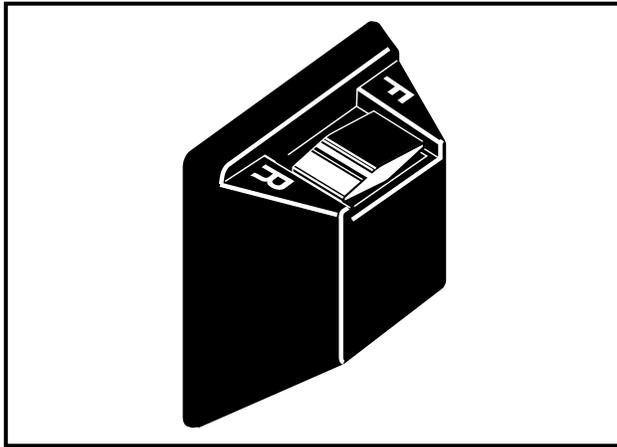

FIGURE 6
The forward/reverse shift switch is located in the same place as the forward/reverse shift lever on all other DS models; on the seat support panel below and to the right of the driver's right knee. The Forward (F) and Reverse (R) positions are clearly marked on the switch. Push down the **F** (forward) side of the switch to run the vehicle in the forward direction, or push down the **R** (reverse) side of the switch to run the vehicle in reverse. When the switch is positioned with neither side down, the vehicle is in the NEUTRAL position and the vehicle will not run if the accelerator pedal is depressed (See Figure 6).